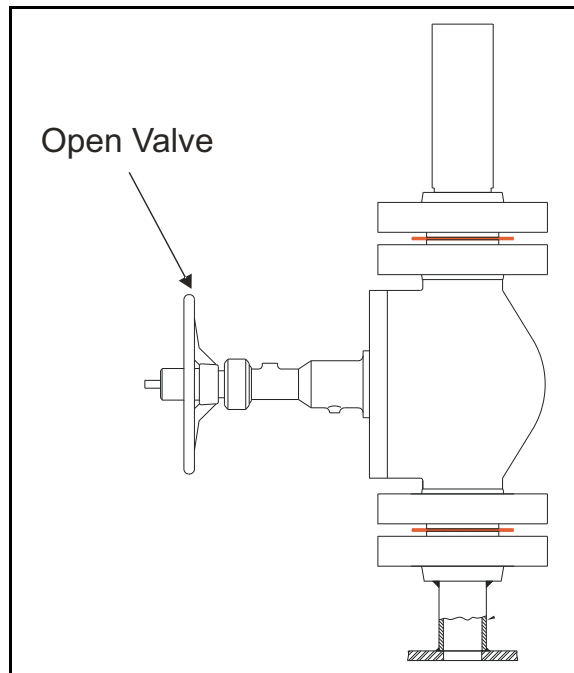

Figure 8: Checking the Open Valve
4. Make sure the ball valve is fully “open” (see *Figure 8* below).